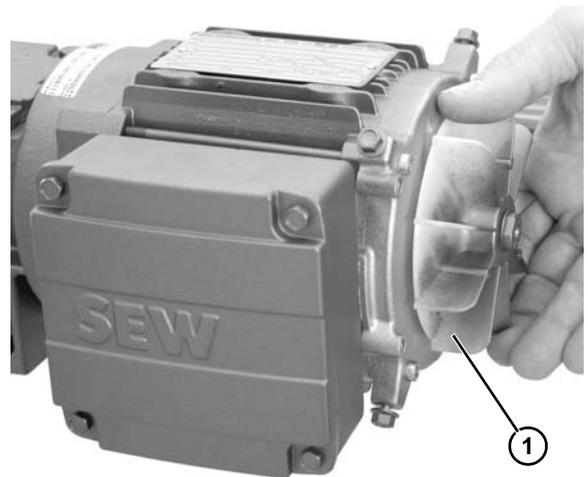

Figure 9
6. Rotate fan (**Figure 9, item 1**) by hand until second set screw lines up with slot. A 90 degree shaft move is required.